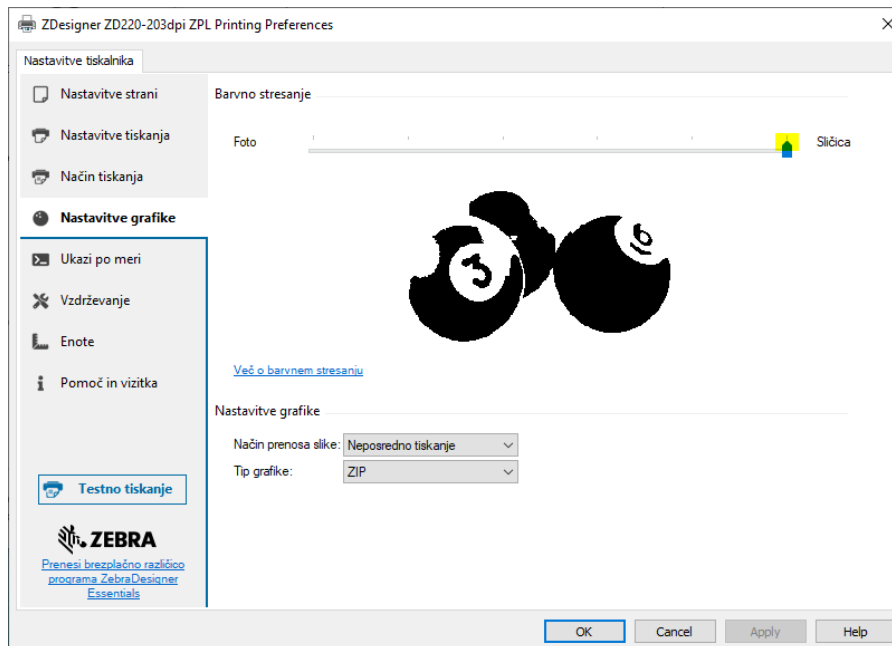

Figure 5: Graphic settings
- Figure 5: Graphic settings4
Finally, check the **Graphic settings**, where the slider under **Dithering** must be set to *Clipart* (see Figure 5).